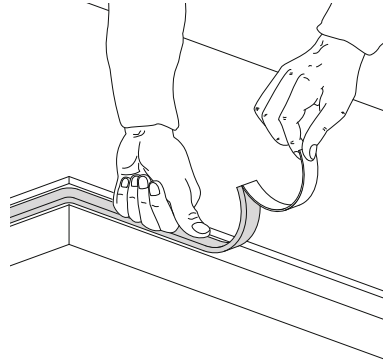

Fig. 5: positioning the insulating gasket
- Before positioning the top, lay the sealer gasket provided on the entire milling surface [Fig. 5].